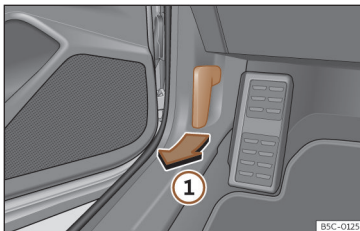

Fig. 217 Release lever in the driver's footwell area.
- Open the door and pull the lever under the dashboard»» Fig. 217 ①.